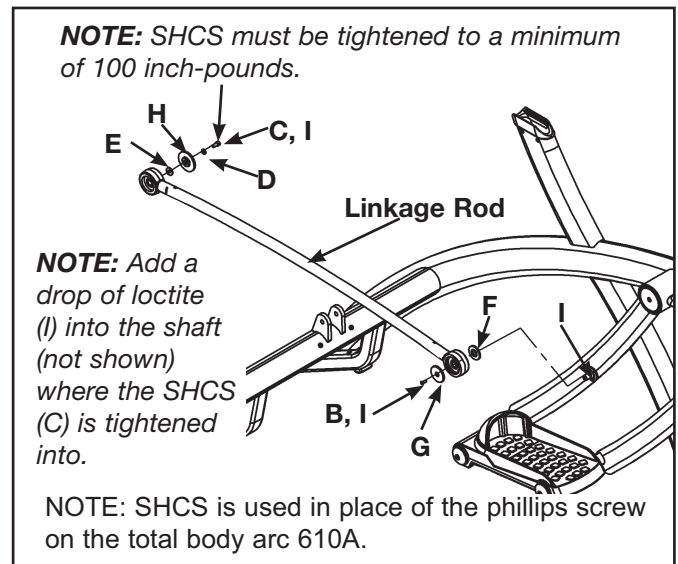

Figure 2 (Right Linkage Rod - User Position)
- A. Turn the main power switch above the power inlet to the off (O) position.
- E. Place a drop of loctite (I) on the SHCS (C) and place another drop of loctite (I) into the shaft (where the SHCS will be tightened into).
- F. Install the spacer (E), cap (H), flat washer (D) and SHCS (C, I) as shown in Figure 2. Tighten securely.
- G. Place a drop of loctite (I) on the Phillips screw (B) and place another drop of loctite (I) on the shaft (where the Phillips screw will be tightened into).
- H. Install the Phillips screw (B, I), spacer (G) and the other spacer (F - between linkage rod arm and foot plate arm) as shown in Figure 2.